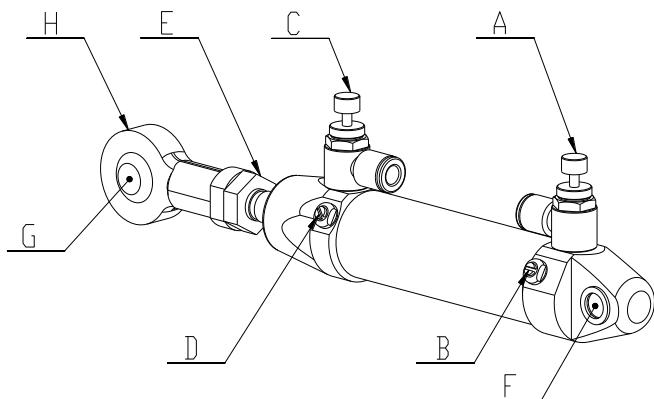

Figure 18 Adjusting the shock mechanism.
- After the cylinder has been replaced, make sure the piston does not knock against the enclosure by adjusting the shock absorbing adjustment screw (D).
- Adjust the shock absorbing mechanism in the cylinder by turning the small adjustment screws on both ends of the cylinder (see Figure 18, B and D).
- 1 To adjust the “out” speed of the piston rod, adjust the speed adjustment screw at the front end of the cylinder (see Figure 18, C).
- 2 To adjust the “in” speed of the piston rod, adjust the speed adjustment screw at the rear end of the cylinder (see Figure 18, A).